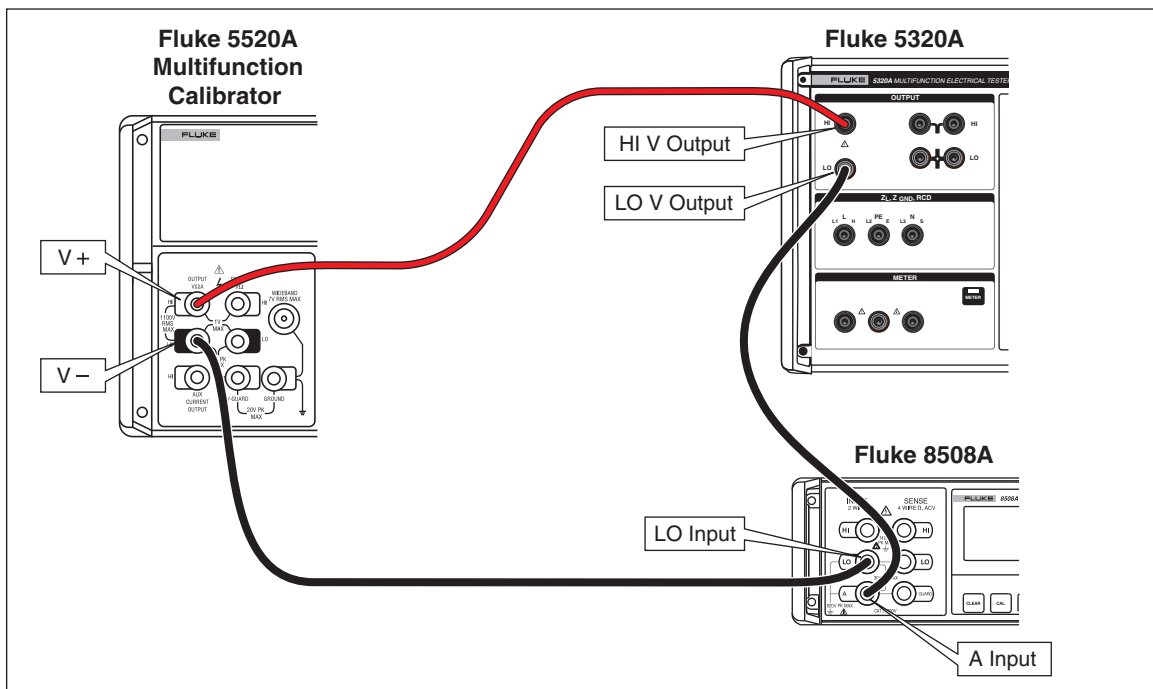

Figure 3-31. Multimeter Current Verification Setup
1. Press **[mA~]** to select the passive leakage current function on the Calibrator. Connect the multifunction calibrator's output (Fluke 5520A in this example) to the HI and LO V~ terminals of the Calibrator as shown in Figure 3-31. On the 5520A calibrator, set its output to the nominal voltage of the power line voltage the Calibrator is powered from (115 V ac or 230 V ac), and set the frequency to 55 Hz.
2. Connect the standard multimeter's current terminals according to the connections shown in Figure 3-31. Select the ACI function with auto range on the standard multimeter (for example, Fluke 8508A).